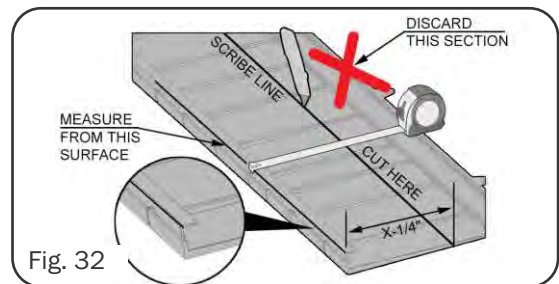

Fig. 32
- Measuring from the location shown in the diagram and transfer the measurement to the panel(s) (Figure 32).